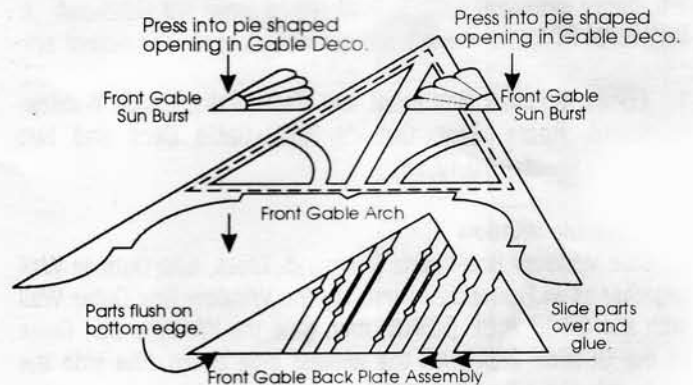

Figure 20
1. Assemble Gable Decos as in Figure 20.